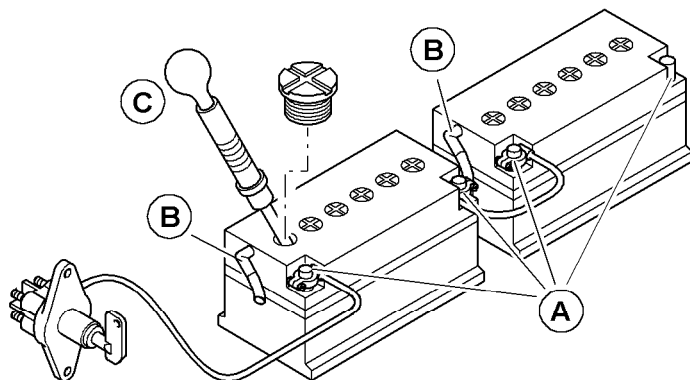

Fig. 5-60 Battery care
- ▶ Particular care should be taken to clean the pole ends and cable terminals **A** regularly and to then cover them with a thick layer of acidproof grease (siehe Fig. 5-60).
- ▶ Check the condition of the hoses **B** regularly, particularly after installing a battery (siehe Fig. 5-60).